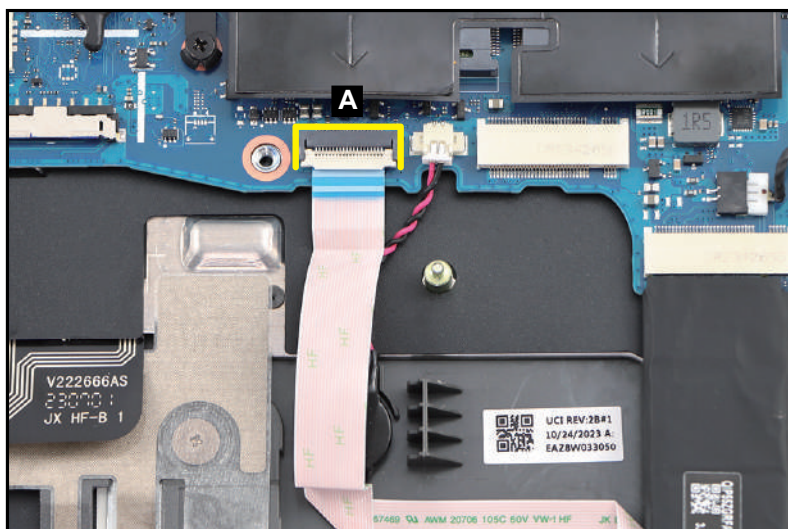

Figure 3-39. RTC Battery Removal
1. Disconnect the card reader board FFC from the mainboard connector (A) (Figure 3-39).